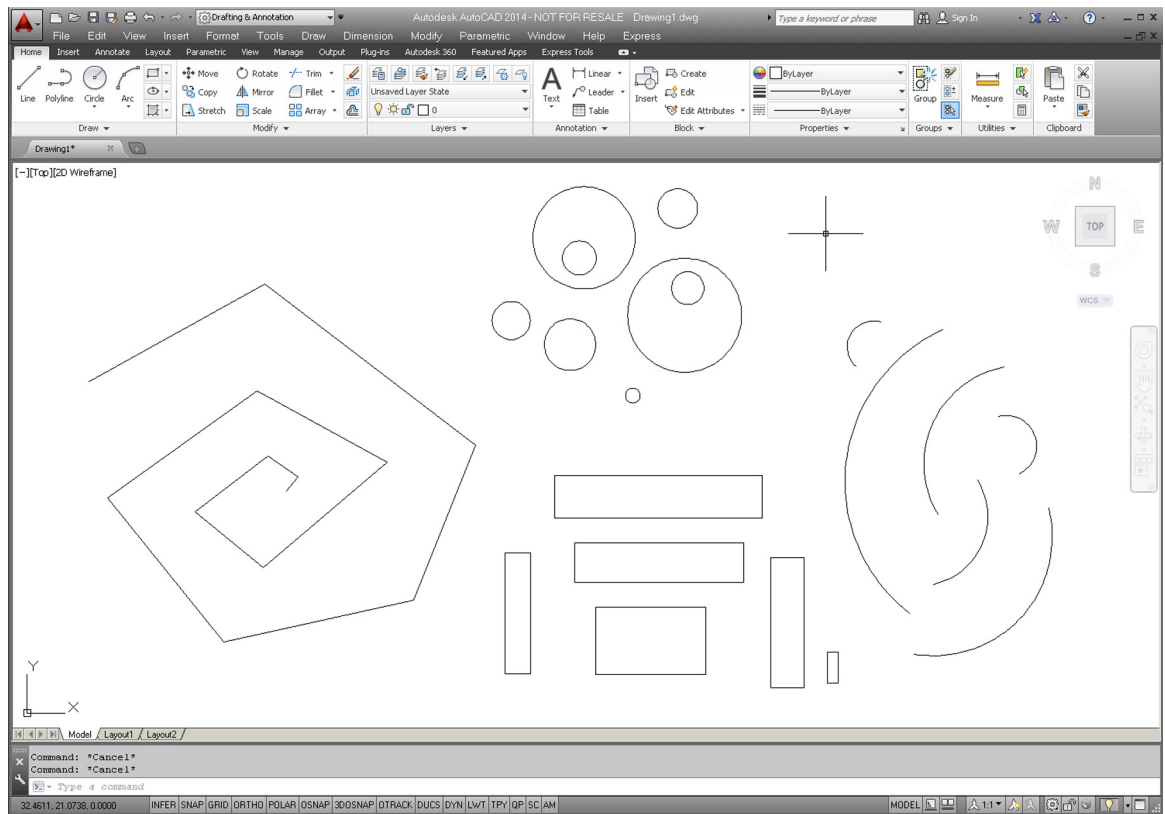

FIGURE 1.19
Step 3. Left-click one more time to finish the command. Your screen should look more or less like Figure 1.19.